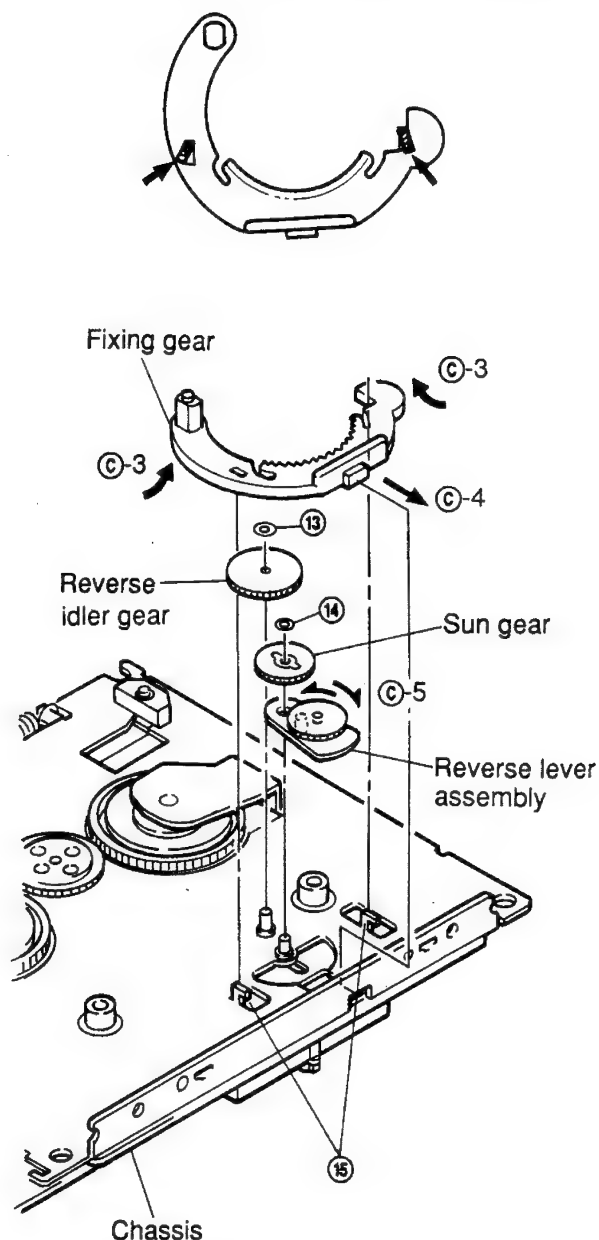

Figure 13
- (1) Remove M1.2 lock washer ⑩, pull it up from the stud of the chassis and remove the gear as shown in Figure 13.
- (2) Remount following the removal steps in the reverse order.
- (1) Remove M1.2 lock washer ⑭, pull it up from the stud of the chassis and remove the gear as shown in Figure 13.
- (2) Mount it, following the removal steps in the reverse order.
- (1) Adjust the two mounting claws for the fix gear on the chassis ⑮ and remove the section C-3 of the gear by pulling it up in the direction of the arrow shown in Figure 13.
- (2) Insert the section C-4 of the new gear into the chassis, and mount it following the removal steps in the reverse order as shown in Figure 13.
- (1) Remove both the fixing gear and the sun gear and remove the reverse lever assembly as shown in Figure 13.